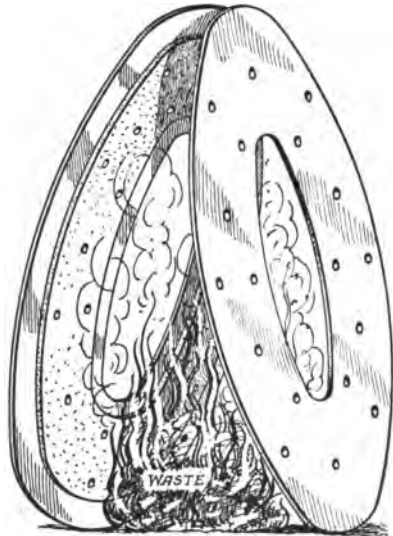

Fig. 71. Burning Oil Off Clutch Discs ;
**Oily Clutches.** The dry clutches with alternate discs covered with a woven fabric of asbestos and brass or with copper wire give considerable trouble from slipping, owing to the presence of grease or to the glazing of the surfaces. When grease is the cause, the clutch is disassembled and washed in gasoline. One shop takes the plates and piles them in pairs and then sets fire to pieces of oil-soaked waste, shown in Fig. 71, in order to completely burn out all the grease. The surface is then roughened up with coarse emery cloth and chalked, after which the clutch is again assembled. The chalk is for the purpose of soaking up the grease and of giving a fairly harsh engagement.